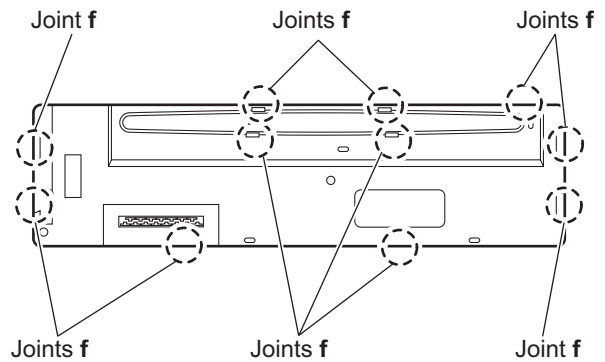

Fig.9
- (2) Release the eleven joints **f**. (See Fig.9)